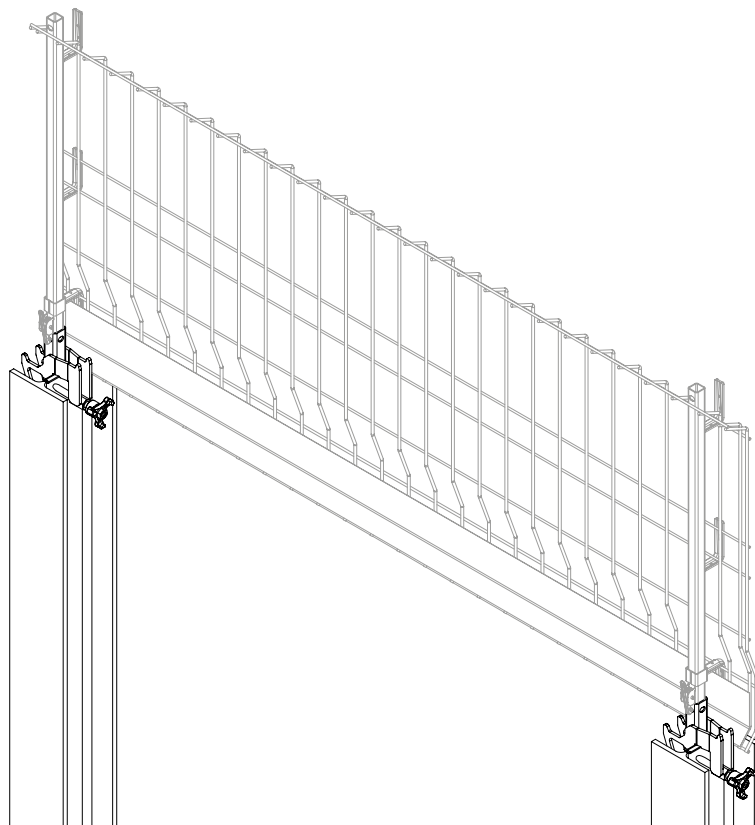

Fig. A2.17
(Fig. A2.17)
1. Slide the sheet piling clamp (4) over the sheet piling.
3. Insert the post (6) into the rectangular tube of the sheet piling clamp, see Section "A3 Post" on page 33.
- (Fig. A2.17)